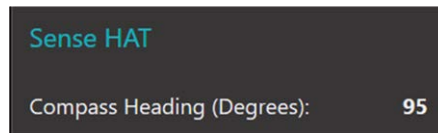

Figure 12.7 Displaying the compass heading
- Join the groups, click **Deploy**, and start your Dashboard. You should see the compass heading from North displayed dynamically as shown in Figure 12.7